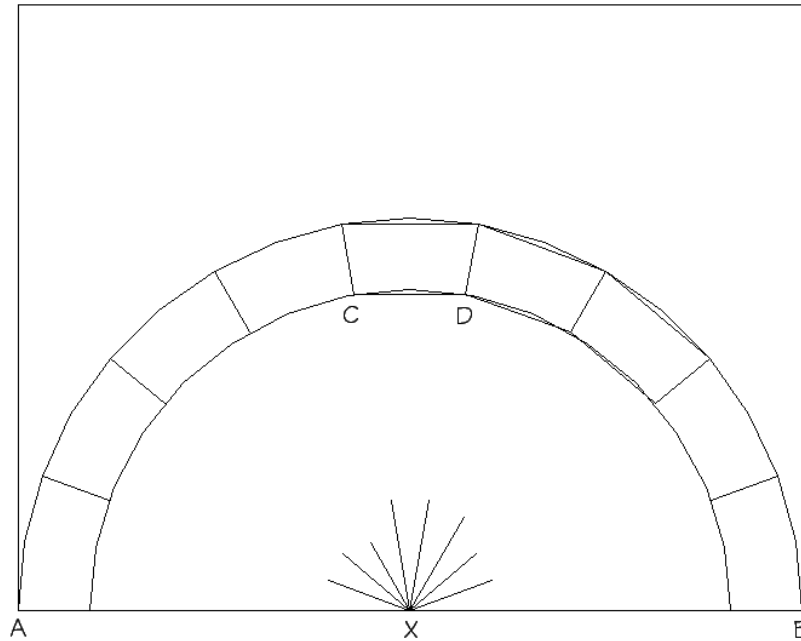

Figure 13.6
6. Now, you have merely to bisect the remaining angles AXC and BXD on each side into two, then 4 sections, and in so doing you will mark off the respective voussoirs of the entire arch (**Figure 13.6**). Square them off, as we have done to several, by merely converting the arcs of each, top and bottom, into chords. In our illustration, note the difference in size of the keystone to the voussoirs.